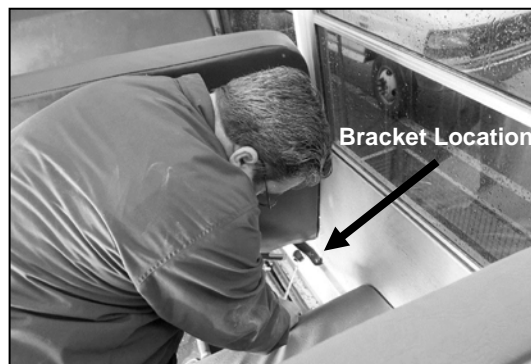

Figure 2
1. Look at the seat mounting bracket. It is behind the seat, at the seat rail along the wall. See **Figure 2**. (A flashlight may be helpful.)